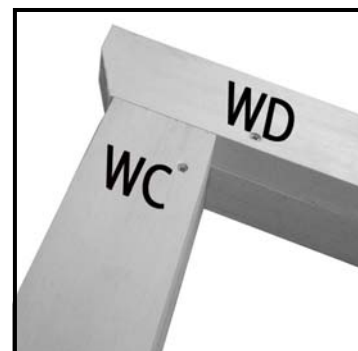

Fig A7
14. Place a **WD** part on top of a **WB** part. The **WD** part is positioned so there is an even overhang (fig A7). Mark out and drill fix as steps 8 to 10. But start at 100mm from the end of part **WD**.